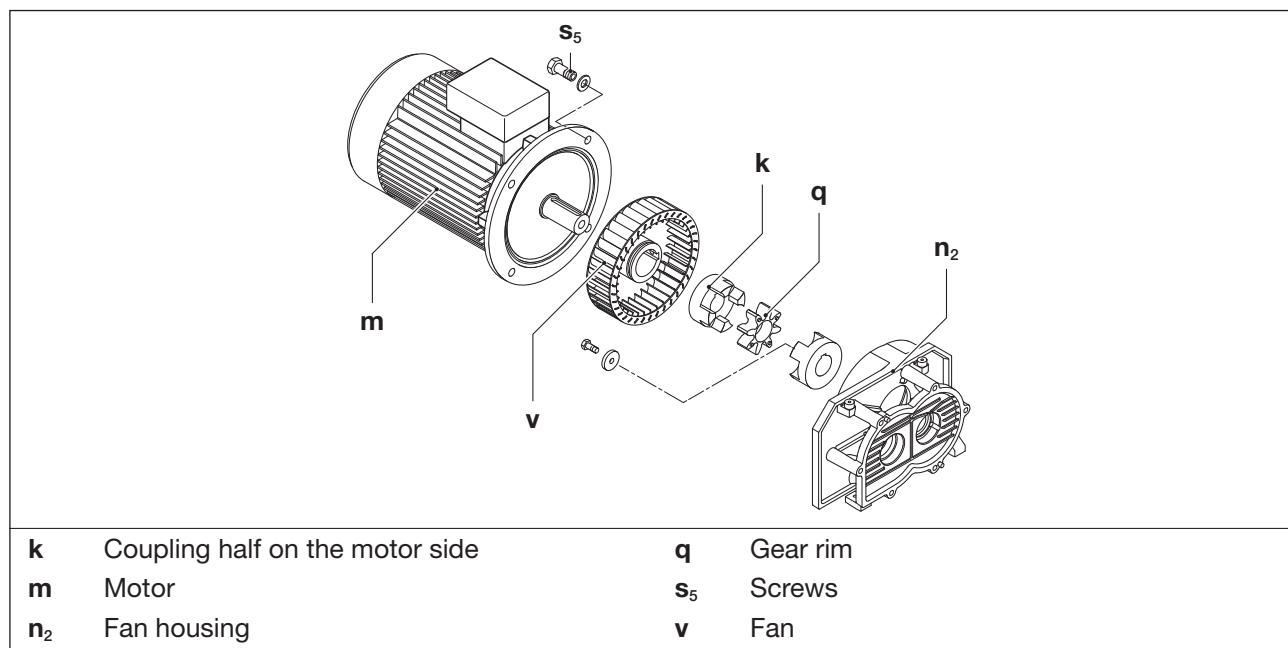

Fig. 7 Coupling
The gear rim (Fig. 7/q) is subject to wear and must be checked regularly (at least 1 x per year). The fan (Fig. 7/v) should also be checked for damage from time to time.
- Suspend the motor (Fig. 7/m) on the transportation lashing by means of lifting gear.
- Release the screws (Fig. 7/s₅) on the motor flange and axially pull the motor with the half of the coupling on the motor side (Fig. 7/k) off the fan housing (Fig. 7/n₂).
- Check the gear rim (Fig. 7/q). If the gear rim is damaged or worn, replace it.
- Check the fan (Fig. 7/v) and replace it, if necessary.
- Axially push on the gear rim and motor with coupling half on the motor side again and fix to the motor flange using the screws (Fig. 7/s₅).